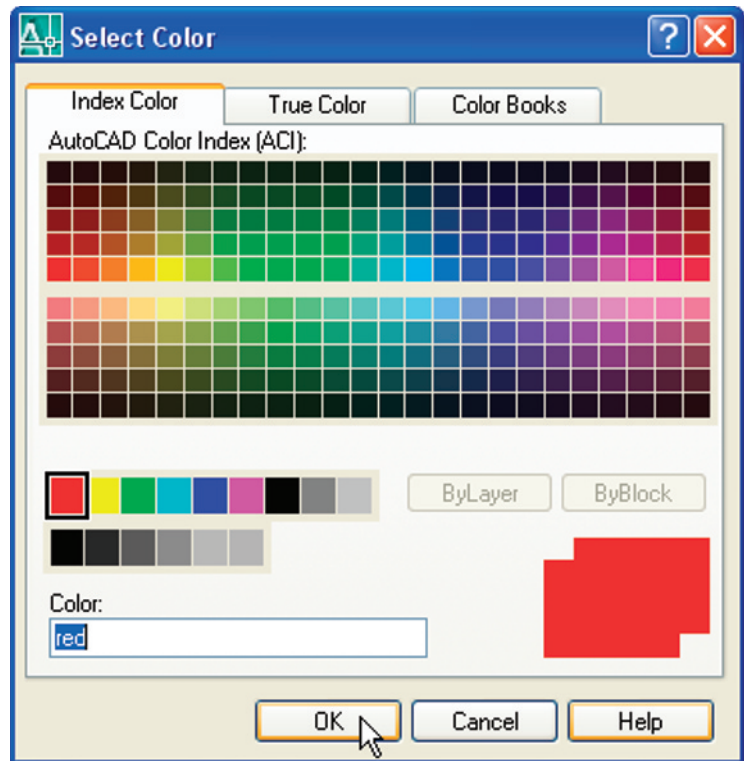

Fig. 4.18 The **Select Color** dialog
4. Click against one of the squares under the **Color** column of the dialog. The **Select Color** dialog appears (Fig. 4.18). **Double-click** on one of the colours in the **Index Color** squares. The selected colour appears